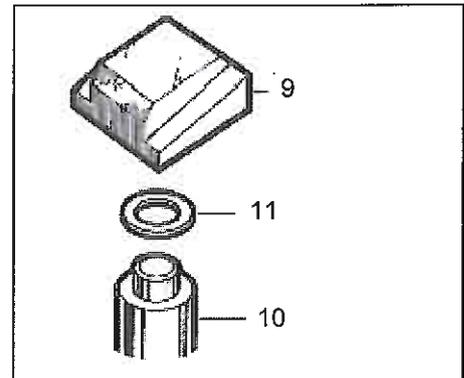

Fig 7
6. Remove tappet head (9) from its shaft (10). Note the number of shims (11) fitted under the tappet head (Fig. 7).